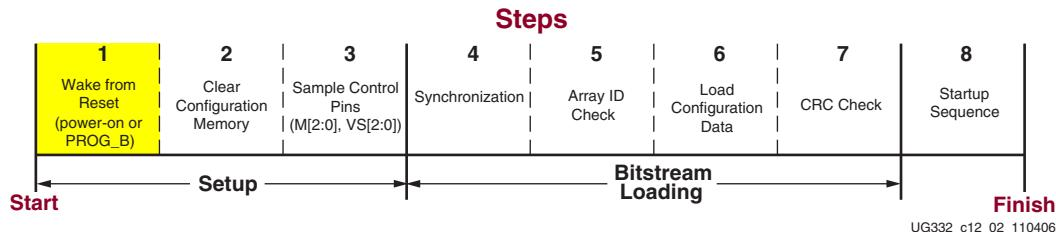

Figure 12-2: **FPGA Wake from Reset**
1. Hold the **PROG\_B** pin Low, which holds the FPGA in reset, Step 1 shown in Figure 12-2, page 244.